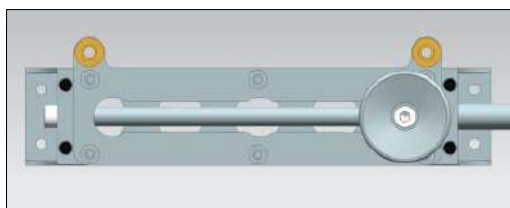

Figure 41-18: Water system lever in the closed position
3. Place the water system lever in the closed position as shown in Figure 41-18.
3. Move the water system lever to the closed position as shown in Figure 41-18.